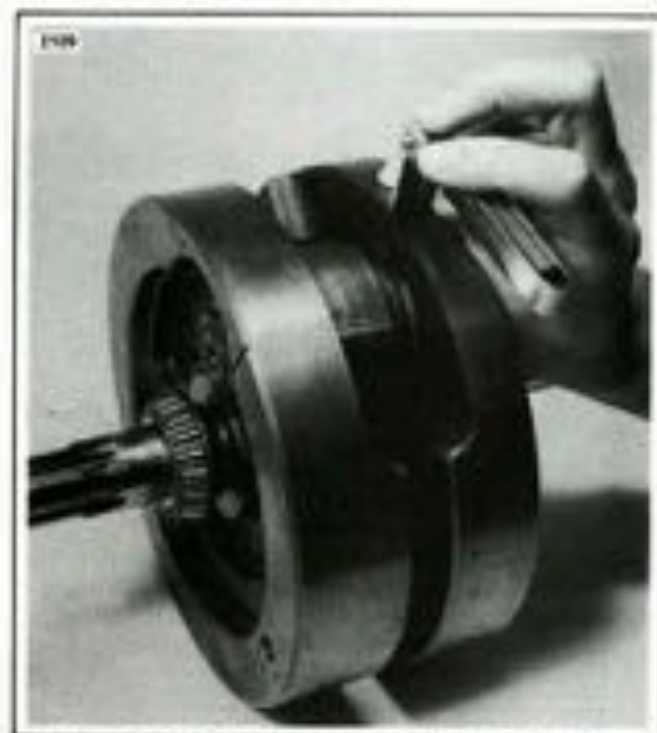

Figure 3-56. Checking Connecting Rod Side Play
7. If it is impossible to true wheels, check for a cracked flywheel, damaged or enlarged tapered hole, or a sprocket or pinion shaft worn out of round at surface where indicator reading is being taken. When wheels are true, position in vise and draw crank pin nuts very tight using CRANK PIN and FLYWHEEL NUT WRENCH, Part No. HD-94546-41. Use torque wrench to finish tightening as specified in SPECIFICATIONS. Check connecting rod side play with thickness gauge as shown in Figure 3-56. If side play is greater than tolerance shown in engine SPECIFICATIONS, draw up crank pin nuts until within tolerance. Insufficient play between rods and flywheel face is caused by one of the following conditions: